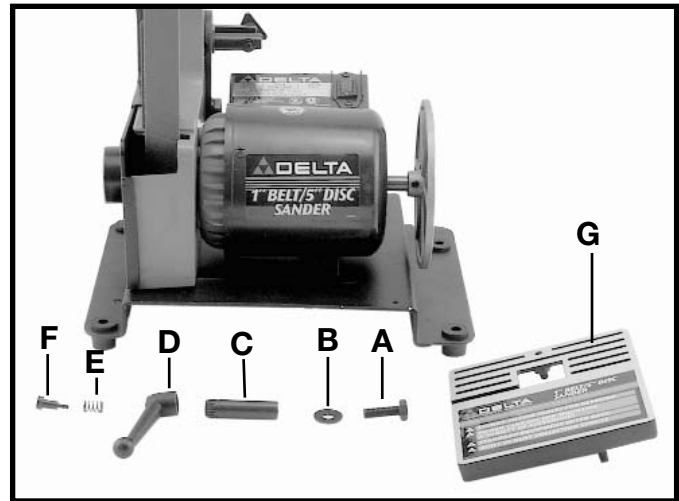

Fig. 2
2. Locate the 1-3/16" long screw (A) Fig. 2, M8.4 flat washer (B), and table locking handle assembly (C), (D), (E) and (F). **NOTE:** The table locking assembly (C, D, E, and F) is shipped assembled. For ease in assembling table to sander, remove screw and spring (E) and (F), and handle (D) from locking stud (C).